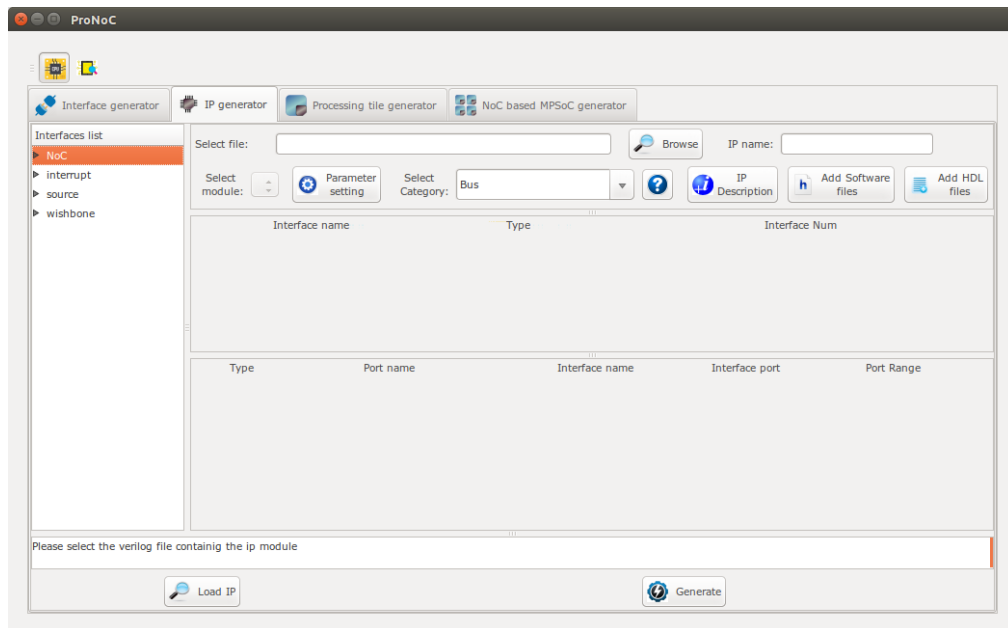

Figure 6.3: ProNoC New IP Generator snapshot.
2. Then select the  IP generator. The IP Generator snapshot is shown in Figure 6.3.